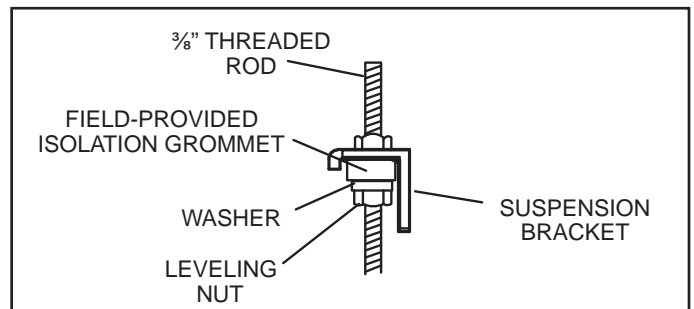

Figure 4. Isolation Grommet
5. It is recommended to install a field-provided isolation grommet as shown in Figure 4 to prevent transmission of vibration from unit to structural ceiling.
- It is recommended to install a field-provided isolation grommet as shown in Figure 4 to prevent transmission of vibration from unit to structural ceiling.